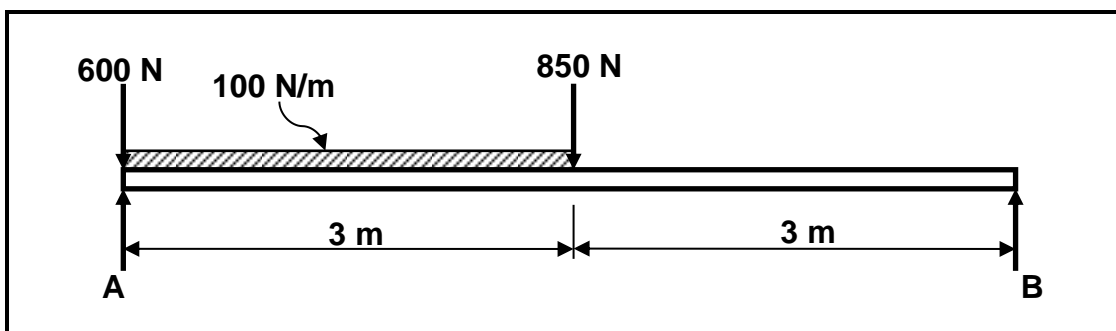

FIGURE 7.3
7.3 FIGURE 7.3 below shows a uniform beam, which is 6 m long, that is supported by two vertical supports, **A** and **B**. A uniformly distributed force of 100 N/m is exerted on the left-hand side of the beam between the two point loads of 600 N and 850 N. Determine, by means of calculations, the magnitudes of the reactions in supports **A** and **B**.